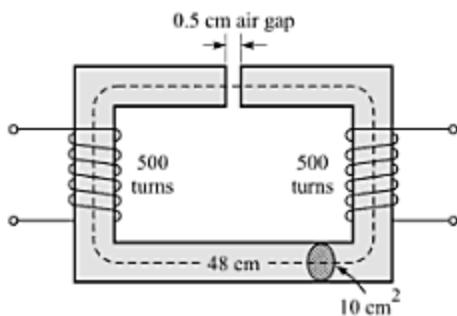

Fig. B-15
- B-73.** An electromagnet of the form shown in Fig. B-15 is excited by two coils, each having 500 turns. When the exciting current is  $0.8 \text{ A}$ , the resultant flux density gives the permeability of 1250. Calculate (a) the total reluctance, and (b) the flux produced in  $0.5\text{-cm}$  air gap.